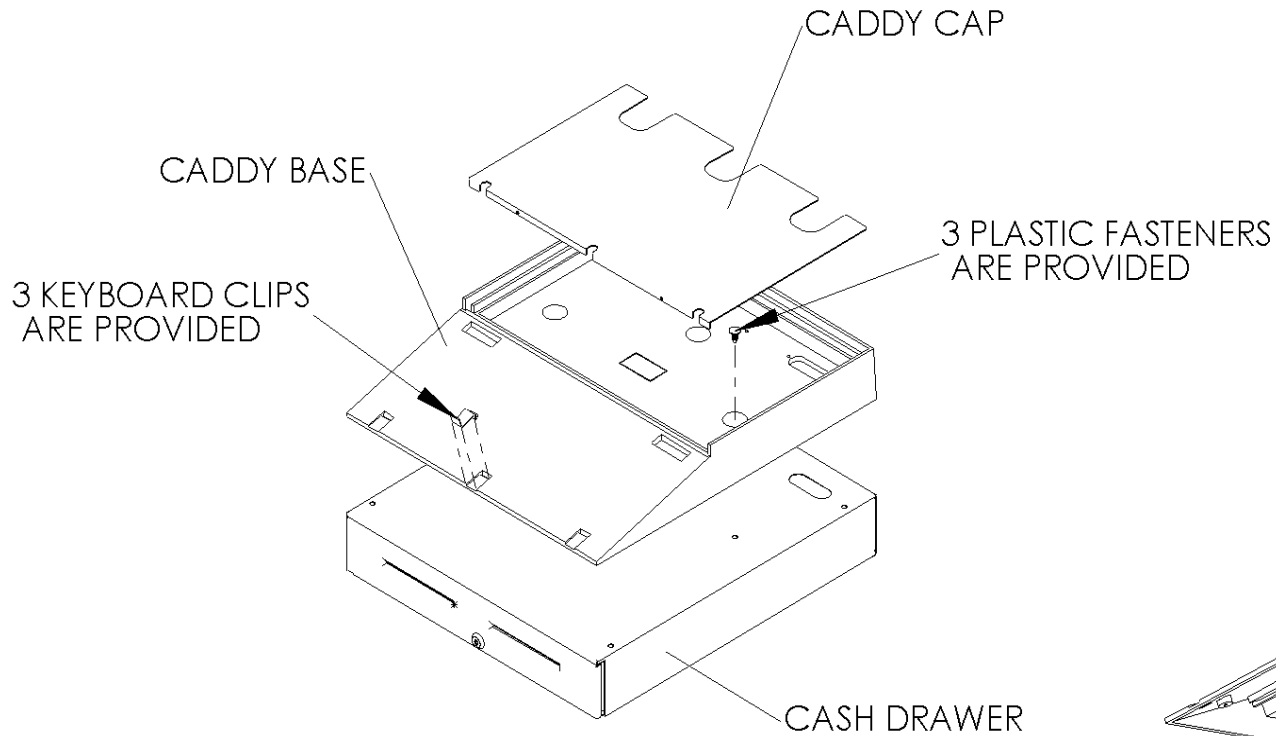

FIG. 2
6. Install the keyboard and keyboard clips, if necessary. The keyboard rests on the sloped surface of the Base with the keyboard feet resting in the recesses provided. The keyboard clips may be used if the keyboard feet do not fit into the recesses provided or the keyboard feet will not be used for the installation. Install up to 3 keyboard clips into the recesses and slots provided. The clips install by inserting the edge of the clip into the slot in the base at an angle. Slight pressure will allow the clip to "snap" into place. Push down on the back of the clip to seat it into the recess on the base. (FIG 2)